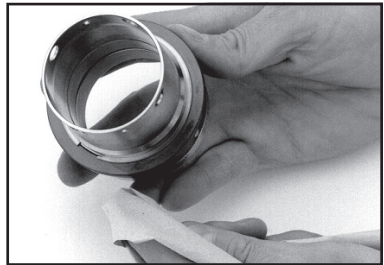

Figure 13
4.3.5 Place the sleeve/rotor assembly rotor face up and **clean the face** with alcohol. See Figure 13.